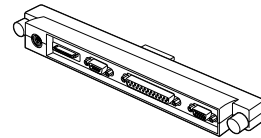

Figure 1-2 Port Replicator
- Port Replicator (Figure 1-2.)